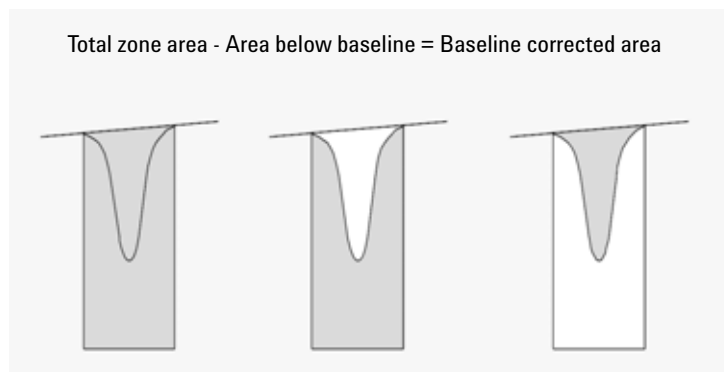

Figure 26 Area Measurement for Negative Peaks
- for tangent (T) peaks, the area above the reset baseline,
- for solvent (S) peaks, the area above the horizontal extension from the last-found baseline point and below the reset baseline given to tangent (T) peaks. A solvent peak may rise too slowly to be recognized, or there may be a group of peaks well into the run which you feel should be treated as a solvent with a set of riders. This usually involves a merged group of peaks where the first one is far larger than the rest. The simple drop-line treatment would exaggerate the later peaks because they are actually sitting on the tail of the first one. By forcing the first peak to be recognized as a solvent, the rest of the group is skimmed off the tail,
- negative peaks that occur below the baseline have a positive area, as shown in Figure 26 on page 104.